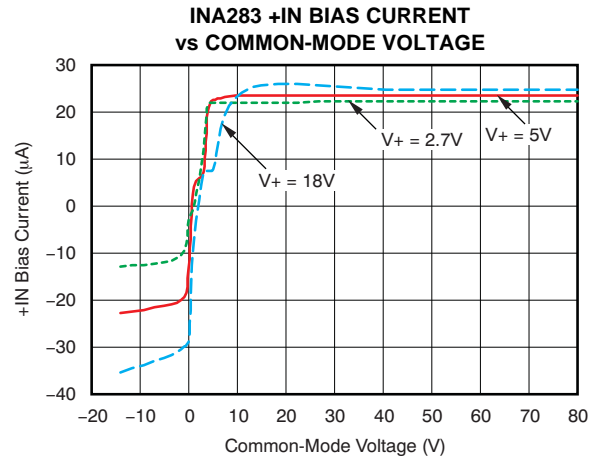

Figure 20.
(1) RTI = referred-to-input.
(2) See typical characteristic graph Figure 20.
(3) The average of the voltage on pins REF1 and REF2 must be between  $V_{GND}$  and the lesser of  $(V_{GND} + 9\text{V})$  and  $V_+$ .